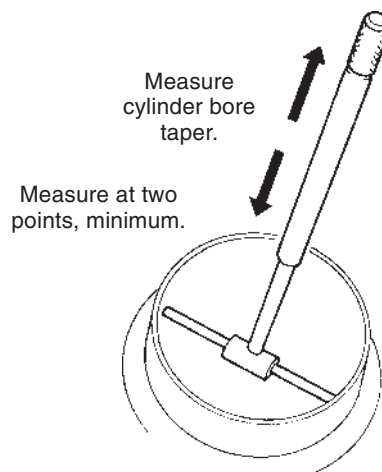

Figure 7.3 Measuring with an inside micrometer.
- If you discover cylinder bore wear, measure the bore with a micrometer and telescoping gauge (Figure 7.3). Replace any components distorted or worn beyond the tolerances listed in the Appendix .